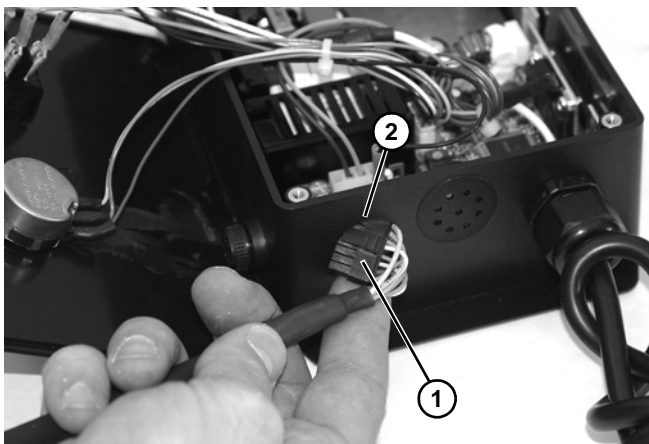

Figure 28
6. Turn connector (**Figure 28, item 1**), as shown, and remove wiring and connector through controller opening (**Figure 28, item 2**).